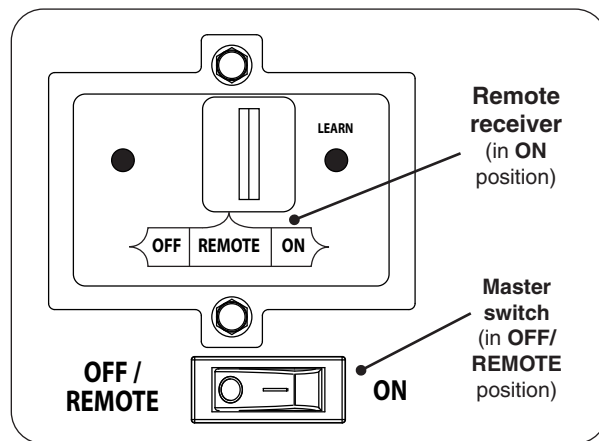

Fig. 39-1 Control panel detail
1. Ensure the master switch is in the **OFF/REMOTE** position (see Fig. 39-1).
3. Locate the 3-position switch on the remote receiver (see Fig. 39-1), and slide the switch to the **ON** position.
The master switch should remain in the **OFF/REMOTE** position to allow for remote system operation (see Fig. 39-1).